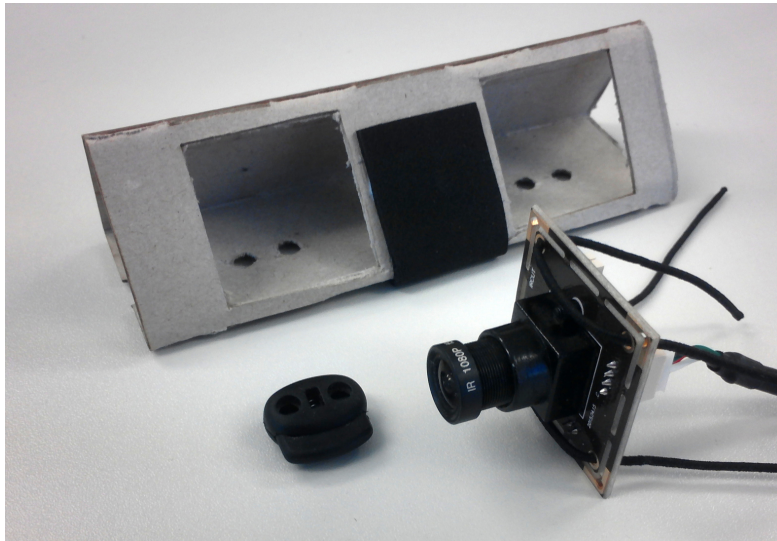
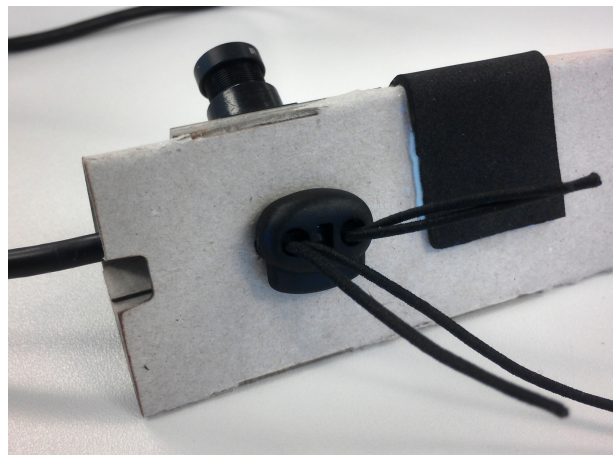

Figure 1.0.25: Camera attached on part B
Figure 1.0.26: Camera attached on part B
10. Now, take part B ,the camera, a cord stopper and two thin rubber bands (see figure 1.0.25) to attach the camera to part B. To do this, pull through the corner holes of the camera two thin rubber bands and pull them at the back of part B through the provided holes and secure the bands with a cord stopper (see figure 1.0.26).